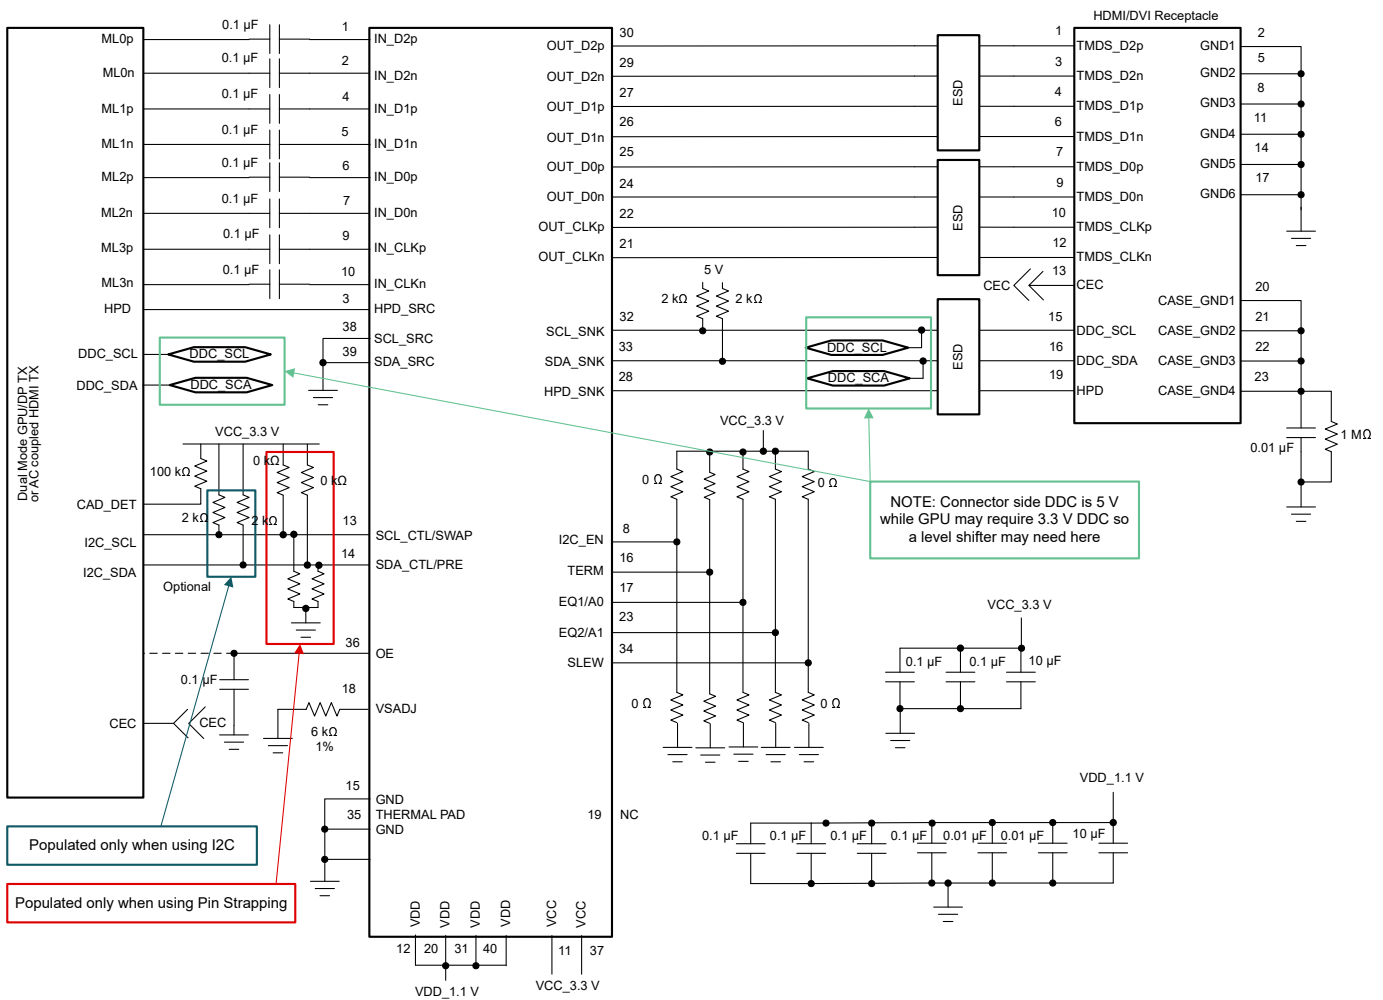

图 8-1. TDP158 in Source Side Application
图 8-1 shows a schematic representation of what is considered a standard implementation.
- Use the typical application 图 8-1 for information on control pin resistors.
- See schematics in 图 8-1 on recommended decouple caps from V_{CC} pins to ground.